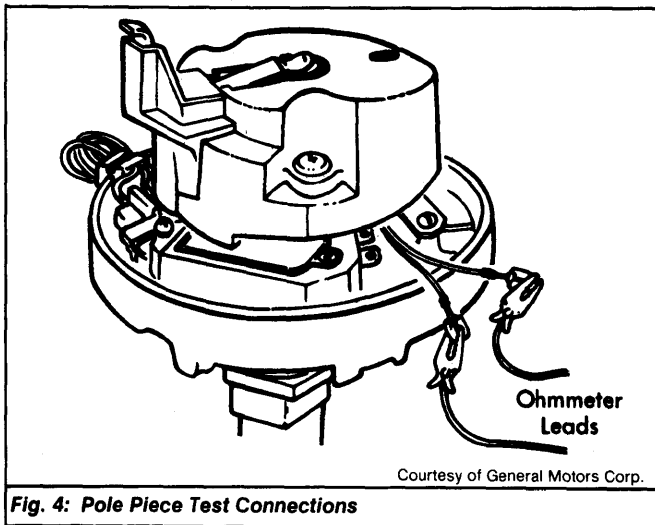

Fig. 4: Pole Piece Test Connections
5) Disconnect pole piece leads from control module. Connect ohmmeter leads to the pole piece leads. See Fig. 4. Reading should be 500-1500 ohms. If not correct, replace pole piece.